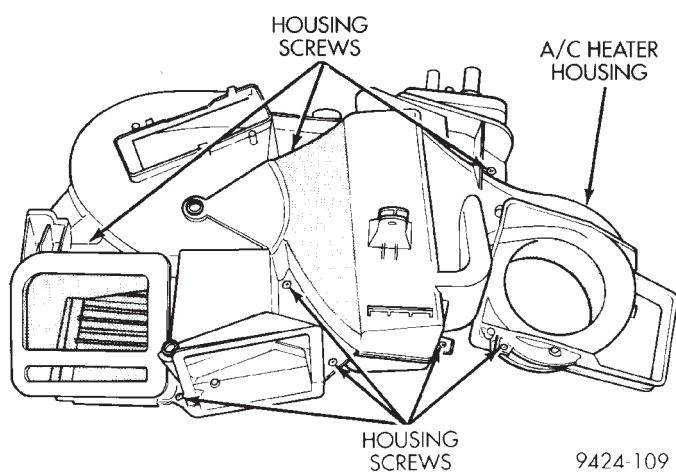

**Fig. 71 A/C Housing Screws**
- (17) Remove upper housing screws and clips (Fig. 71).